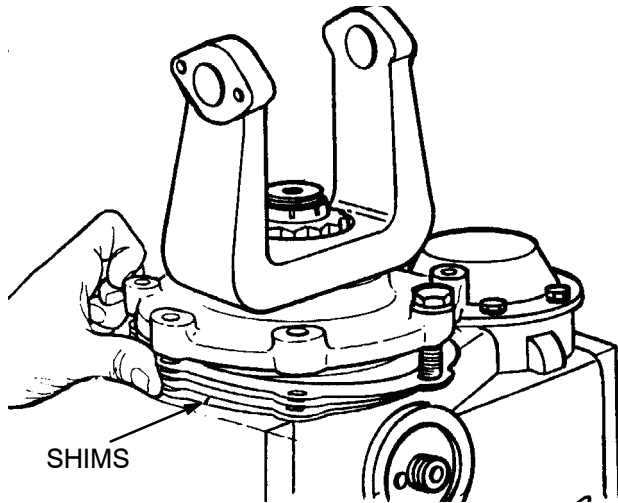

Figure 98.
- (4) Add up the four measurements and determine the average gap between the cage and the carrier. Add 0.005 inch (0.13 mm) to the average gap measurement to determine the size of the shim pack between the cage and the carrier.
- (5) Use at least three shims to build a shim pack. Put the thickest shims in the middle of the shim pack.
- (6) Remove the capscrews that fasten the input bearing cage to the carrier.
- (7) Install the shim pack according to the following procedure:
- Install the shim pack under the bearing cage. Make sure that the hole pattern of the shim pack matches the hole pattern of the cage. Figure 98.